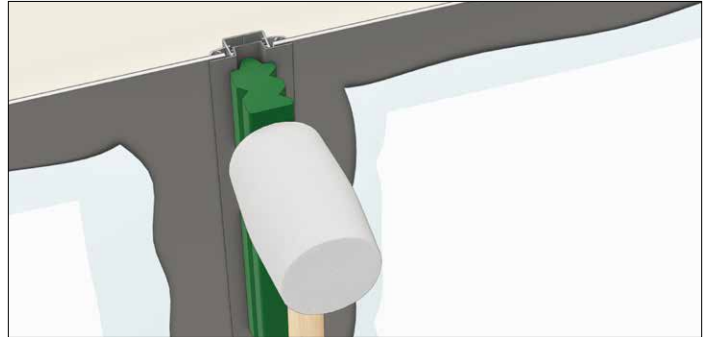

Figure 21.2
19. Install the QP 05 Vertical Main Wall top cap by applying dots of external silicone into the EZ.Lock® Engagement channel before you engage the top cap. QuickPanel® HammerBlock™ and a deadblow/mallet to secure top cap in place. (Figure 21.2)